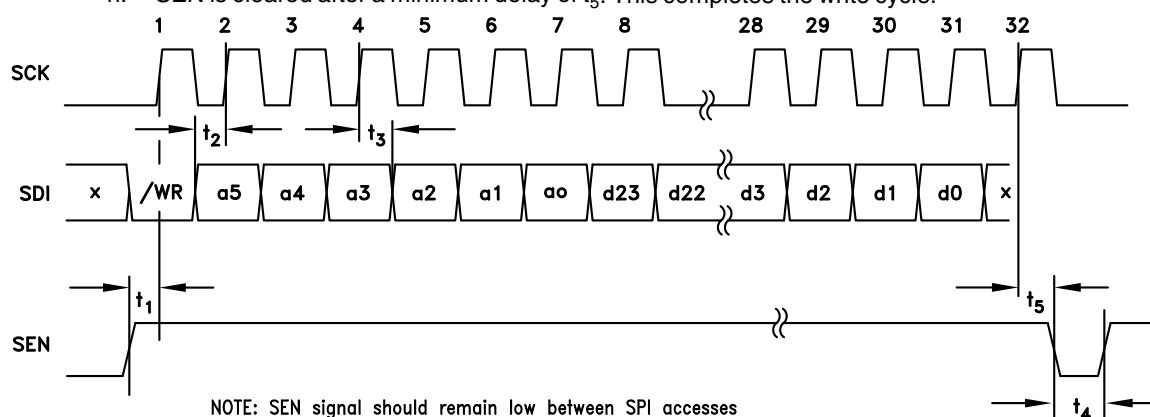
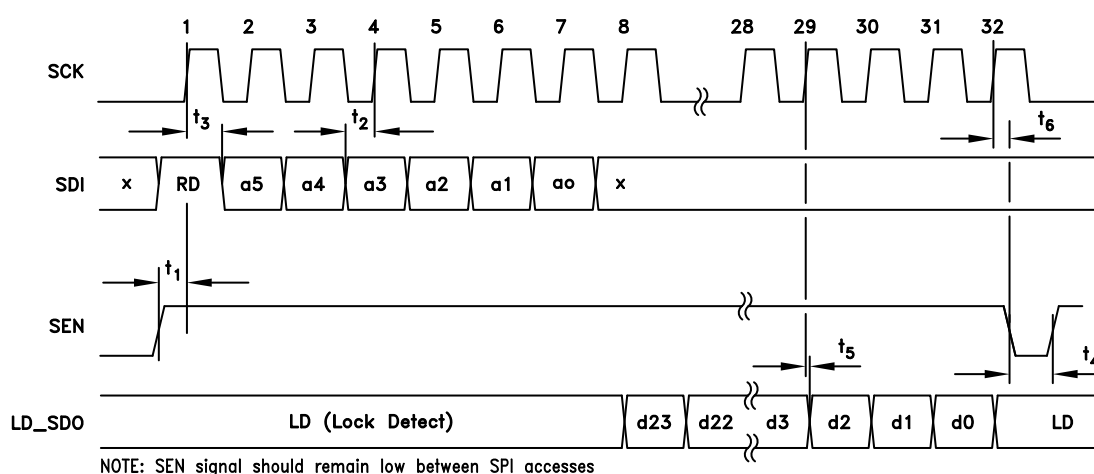

Figure 45. HMC Mode - Serial Port Timing Diagram - WRITE
Figure 46. HMC Mode - Serial Port Timing Diagram - READ
The HMC Mode protocol, shown in figures Figure 45 and Figure 46, is designed for a 4 wire interface with a fixed protocol featuring
A typical HMC Mode WRITE cycle is shown in Figure 45.
A typical HMC Mode READ cycle is shown in Figure 46.
- The Master (host) asserts both SEN (Serial Port Enable) and SDI to indicate a READ cycle, followed by a rising edge SCLK. Note: The Lock Detect (LD) function is usually multiplexed onto the LD_SDO pin. It is suggested that LD only be considered valid when SEN is low. In fact LD will not toggle until the first active data bit toggles on LD_SDO, and will be restored immediately after the trailing edge of the LSB of serial data out as shown in Figure 46.
- The slave (HMC834LP6GE) reads SDI on the 1st rising edge of SCLK after SEN. SDI high initiates the READ cycle (RD).